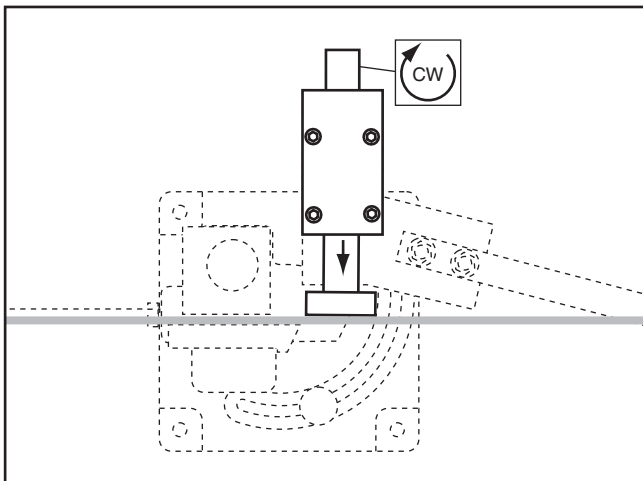

Figure 13. Tightening bending plate.
- Adjust the bending plate to support the workpiece while bending (**Figure 13**).